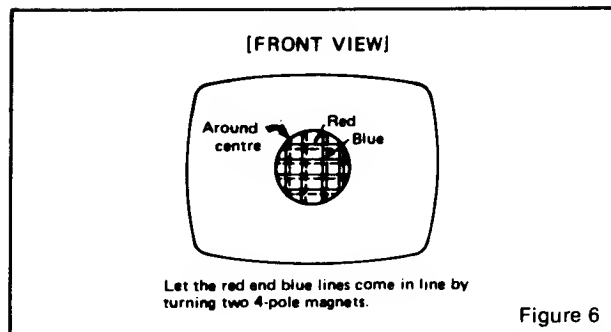

Figure 6
- 2.5 Rotate the 4-pole (middle) pair of magnets as a unit to minimize separation of the red and blue crosshatch lines around the center of the screen (Figure 6). Variation of the angle between the tabs adjusts convergence of red and blue. (Tilt yoke as required to converge red and blue at the edges as in 2.3 above.)